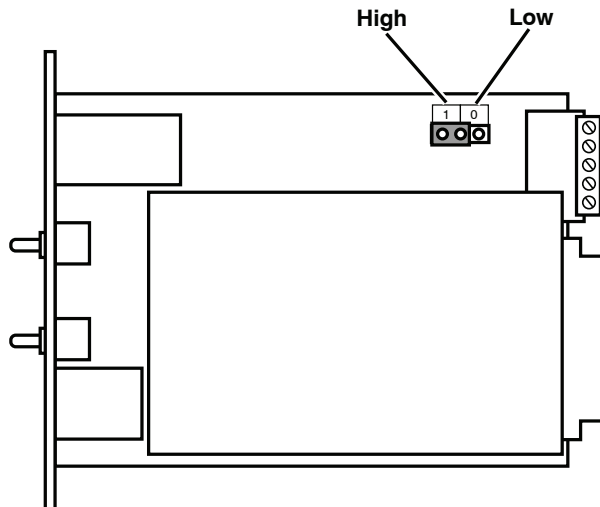

Figure 4.4: Control Module Jumper
1. **Control Card Jumper Setting:** Set the Jumper to the "0" position. This will set the non-active, non-alarm signal state to "Low" as shown in Figure 4.4.